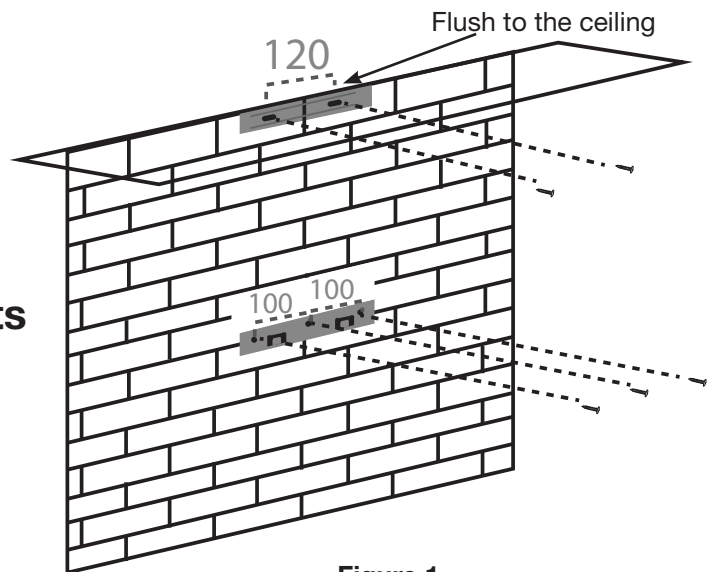

Figure 1
- The range hood will be installed on top of this bracket (see Figure 1).
- Drill 2 holes according to the size of the upper mounting bracket. The upper mounting bracket should be positioned flush with the top of the lower chimney (see Figure 1).